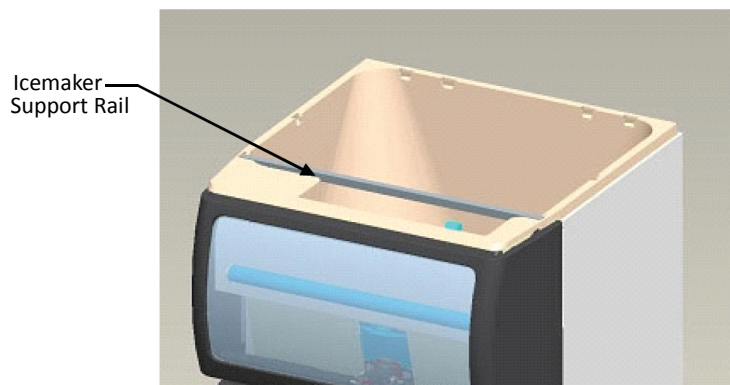

Figure 2.
2. Place ice maker support rail into the front set of pockets in the ice bin as shown in Figure 2.